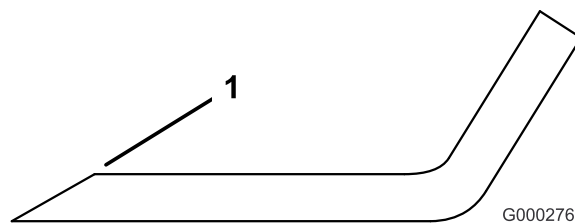

Figure 74
1. Use a file to sharpen the cutting edge at both ends of the blade (Figure 74). Maintain the original angle. The blade retains its balance if the same amount of material is removed from both cutting edges.